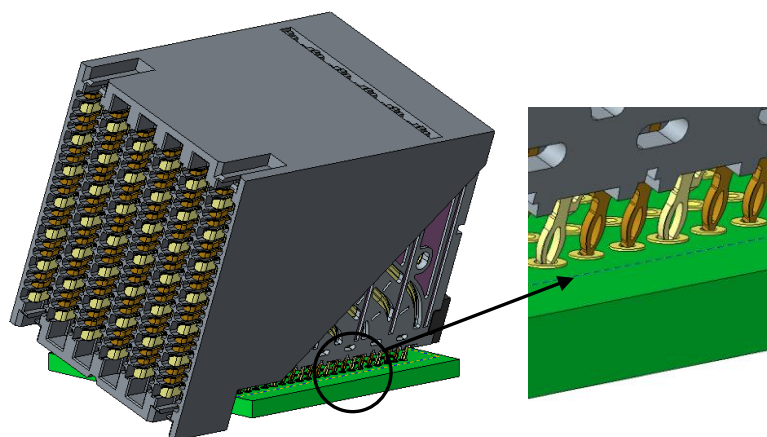

Figure 25: Right Column EONs Being Aligned With PCB Vias
- Begin by holding the connector at a slight angle so that the tips of the outside column press fit tails, left or right, can be inserted into either the first or last column of via holes on the PCB. See figure 25.